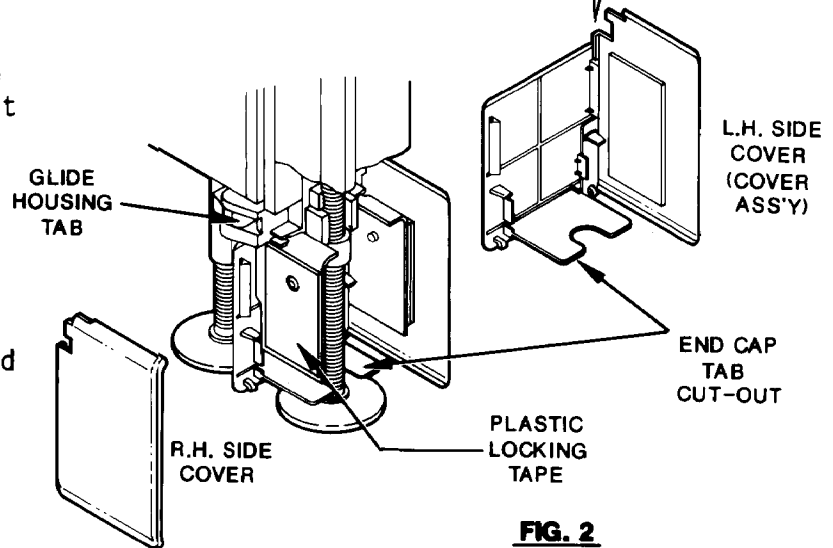

FIG. 2
3. Remove one side cover from cover assembly and install remaining cover and end cap assembly so that end cap tab cutout is around glide stem (Fig. 2). Align side cover around glide housing tab and secure cover by pressing outer surface to engage plastic locking tape on cover and hanger bracket.
3A. NOTE: For panels with plastic glide housings, it will be necessary to cut out cover section on L.H. cover only (Fig. 2).